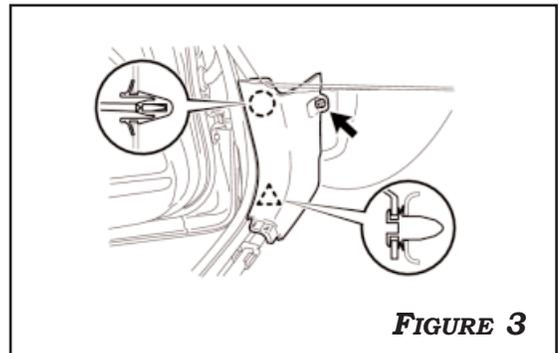

FIGURE 3
3. DISENGAGE THE CLAW AND 2 CLIPS AND REMOVE THE DRIVER'S SIDE KICK PANEL. **FIGURE 3**